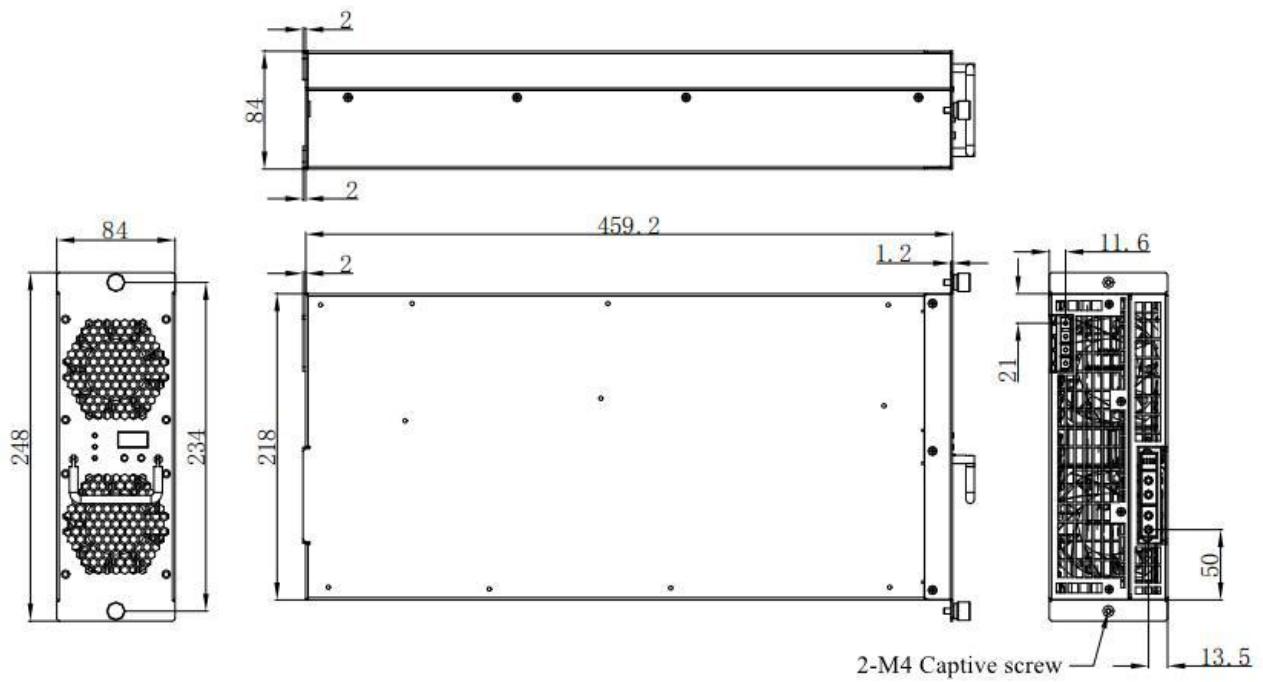

Figure 2-5 Module dimension (mm)
2.2.1 The installation dimensions of MXR100020 module are shown in Figure2-5.